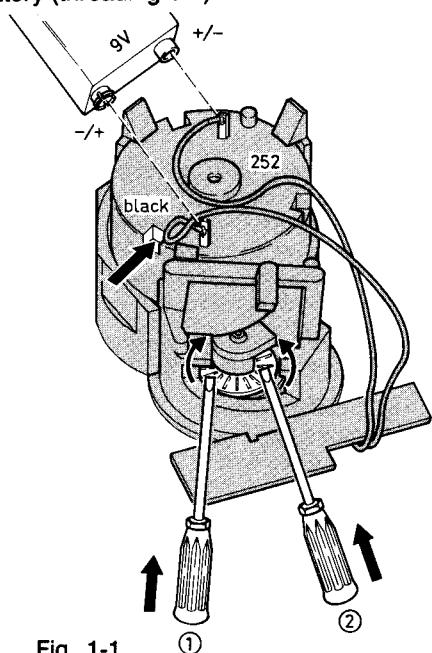

Fig. 1-1
**If not:** Remove the little connector print from the threading motor holder Fig. 1-1. Now you can see a crank drive pos. 259.
- ① Crank drive has to be turned clockwise 4x (for threading in).
- ② Crank drive has to be turned counterclockwise ~50x until lift is in eject position or by means of 9 Volt battery (threading out).